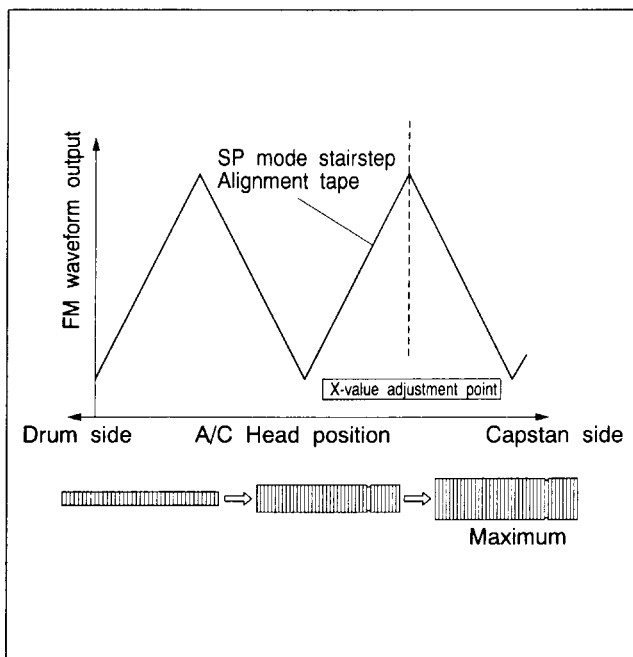

Fig. 2-7-7
- (5) Turn the tool first to position the A/C head fully toward the capstan. Then gradually return it toward the drum and stop at the position of maximum FM waveform output level as shown in Fig.2-7-7.
- (6) Tighten screw (5). Remove the tool and tighten screw (4).